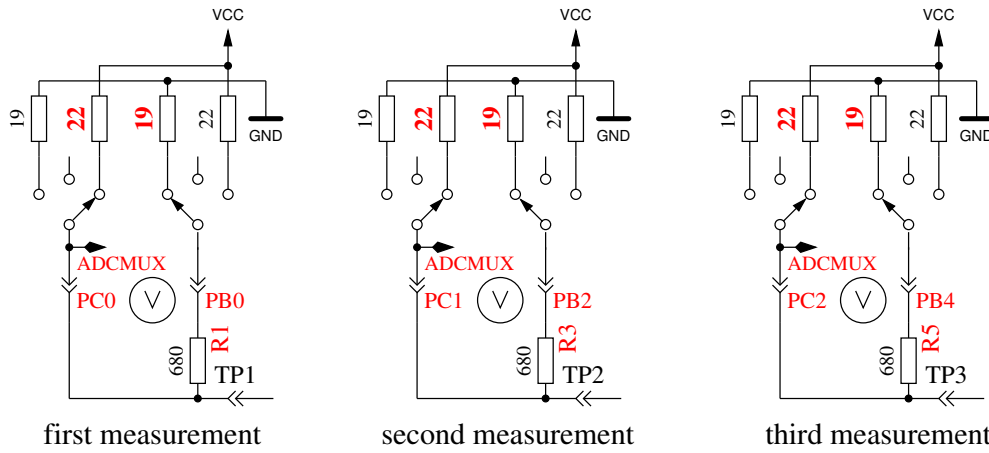

Figure 5.44: Measurement of internal resistance of Port C switched to VCC
8. **Measuring of internal resistance of port outputs switched to the VCC (+)signal.** The needed current is generated with to GND connected 680Ω resistors . It are the same measurements as those in test 7 to the other side as you can see in Figure 5.44. With the following steps the resistance is computed: To get the current, the following is computed:  $(VCC - (resultoftest7) - (resultoftest8))/680$ . To get both resistor values, the voltage (result of test 7 or 8) is divided by this current. The result for this test will then be notified in row 1 with the text "RI.Hi=", the resistance value (Ω) to the GND side is displayed in row 2 with the text "RI.Lo=". Both results will be written to the EEprom memory and will be used for further measurement.